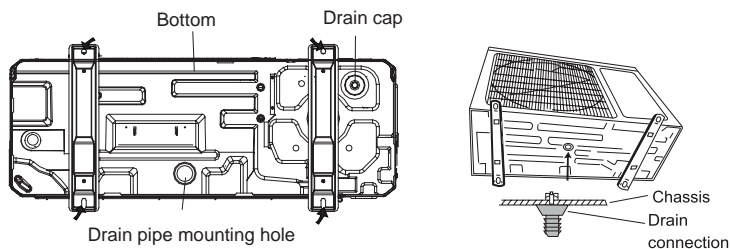

Fig.12
4.2.2. Condensate Drainage of the Outdoor Unit(Only for the heat pump unit) (Fig.12)